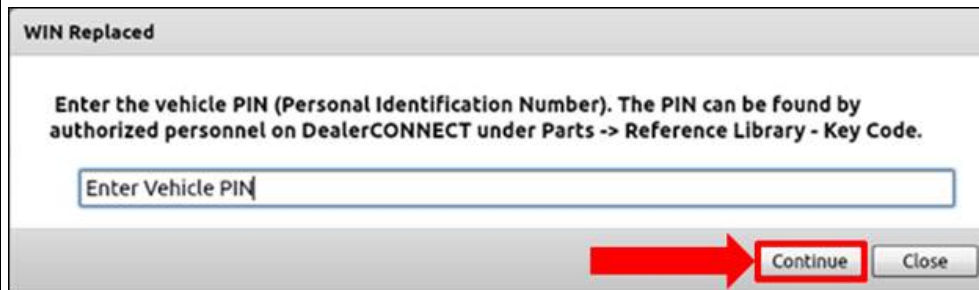

Figure 4
4. When prompted, enter the PIN into the new WIN. This step will write the PIN to the new WIN. You will be asking to verify the PIN is correct before this procedure can continue. If PIN is correct select Continue to proceed (Figure 4).